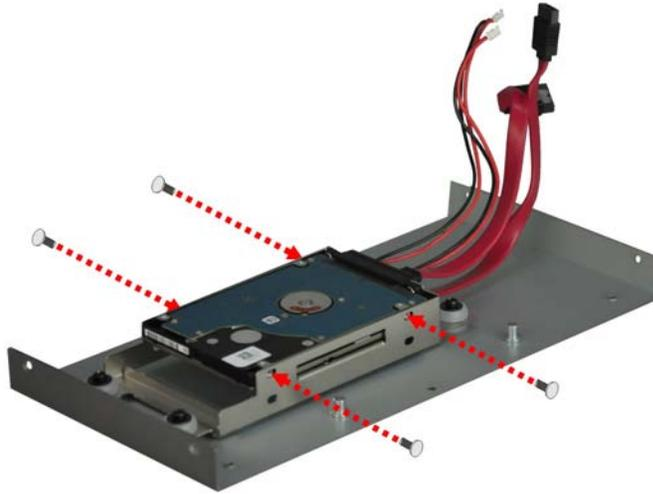

Figure 3-3: HDD Installation
Step 3: Attach the HDD to the HDD bracket, and then secure the HDD with the HDD bracket by four retention screws (**Figure 3-3**).